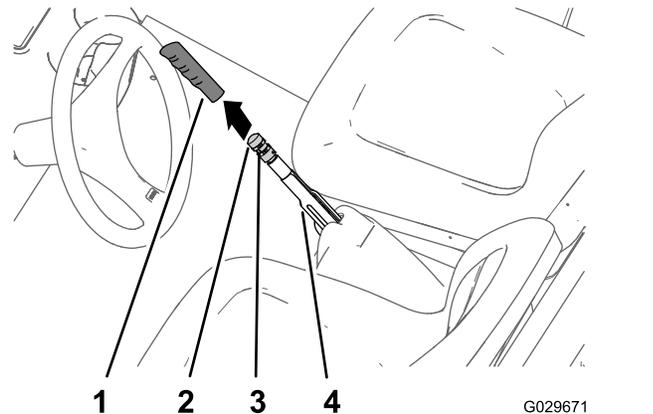

Figure 66
1. Remove the handgrip from the parking-brake lever (Figure 66).
2. Loosen the set screw securing the brake-adjustment knob to the parking-brake lever (Figure 66).
3. Rotate the brake-adjustment knob until you reach a force of 133 to 156 N (30 to 35 lbf) to engage the parking-brake lever (Figure 66).
4. Tighten the set screw and install the hand grip (Figure 66).
2. Loosen the set screw (Figure 66) securing the brake-adjustment knob to the parking-brake lever, disengage the parking brake, and loosen the brake-adjustment knob.
5. Rotate the brake-adjustment knob (Figure 66) until a force of 133 to 156 N (30 to 35 lbf) is required to engage the parking-brake lever.
- C. Rotate the brake-adjustment knob (Figure 66) until a force of 133 to 156 N (30 to 35 lbf) is required to engage the parking-brake lever.
- Tighten the set screw and install the handgrip (Figure 66).